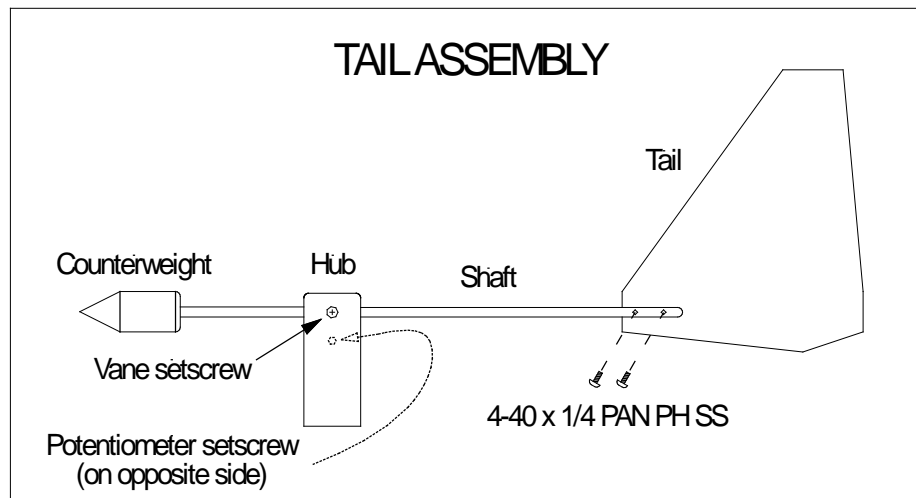

Figure 1
1. Using a 1/16" Allen wrench, loosen the potentiometer set screw located on one side of the hub (See Figure 1 on Page 6).